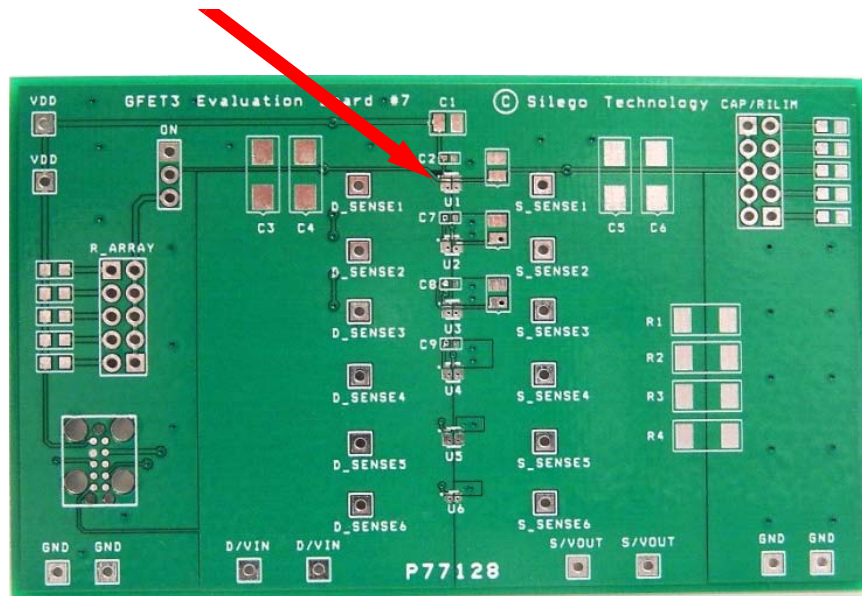

Figure 1. SLG59M301V Evaluation Board.
2. Since the D/VIN and S/VOUT pins dissipate most of the heat generated during high-load current operation, it is highly recommended to make power traces as short, direct, and wide as possible. A good practice is to make power traces with an absolute minimum widths of 15 mils (0.381 mm) per Ampere. A representative layout, shown in Figure 1, illustrates proper techniques for heat to transfer as efficiently as possible out of the device;
A GFET3 Evaluation Board for SLG59M301V is designed according to the statements above and is illustrated on Figure 1. Please note that evaluation board has D_Sense and S_Sense pads. They cannot carry high currents and dedicated only for RDS_{ON} evaluation.